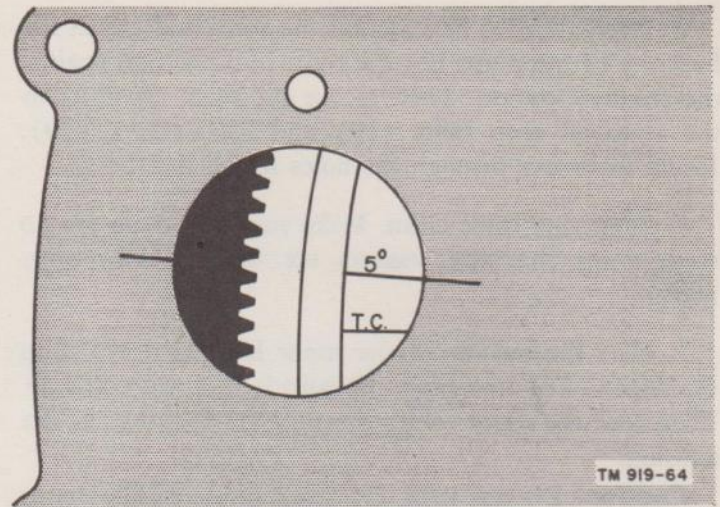

Figure 64. Flywheel timing marks.
(1) Loosen the screws which hold the timing hole cover, located on the flywheel housing just under the starting motor. Slide the cover to one side.
(2) Remove the No. 1 spark plug. Rotate the crankshaft until the No. 1 piston is coming up on the compression stroke and until the 5° mark on the flywheel is in the center of the timing hole as shown in figure 64.